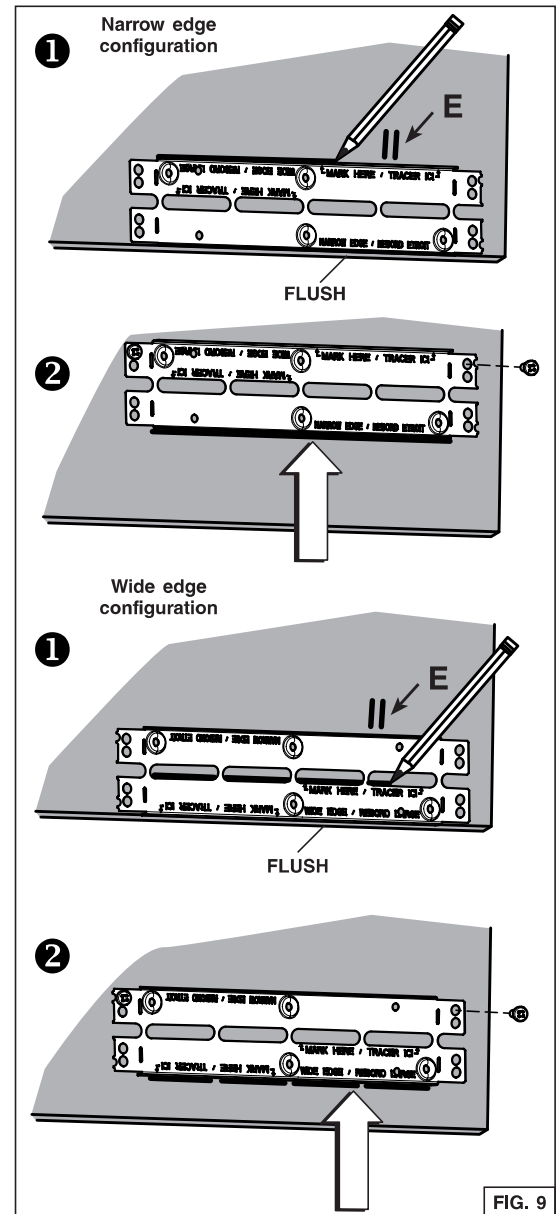

FIG. 9
5. Pay attention to the Ease of Install hooks location on the unit (distance given from unit front flange, FIG. 8). Measure and mark the position of the Ease of Install hooks (shown as **E** in FIG. 9 on next page) on both cabinet side walls.
6. Install the cabinet brackets as follow (FIG. 9):
① Align the bracket flush with the bottom of the right cabinet side panel, with the hooks marked position (E) between the bottom embossed holes. For the narrow edge configuration, trace a line on the top of the bracket. For wide edge configuration, trace a line at the bottom of the central slots.
② Lift the bracket flush with the marked lined. Assemble the bracket to the cabinet side panel using 2 no. 8 x 5/8" wood screws (included in parts bag) through the upper holes.